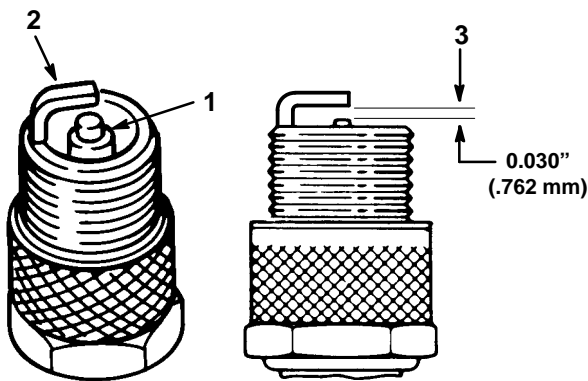

Figure 19
1. Look at the center of the spark plug(s) (Fig. 19). If you see light brown or gray on the insulator, the engine is operating properly. A black coating on the insulator usually means the air cleaner is dirty.
2. Check the gap between the center and side electrodes (Fig. 19). Bend the side electrode (Fig. 19) if the gap is not correct.